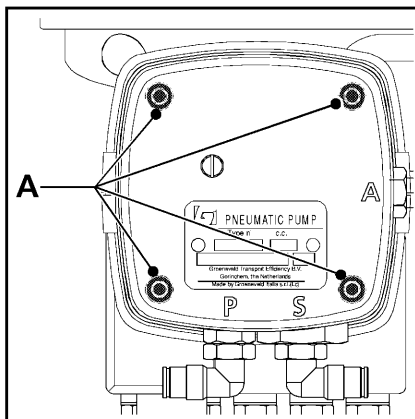

Fig. D10
1. Remove the 4 mounting screws from the cover of the brake-counter (fig. D10). Use an 5 mm. Allen key.